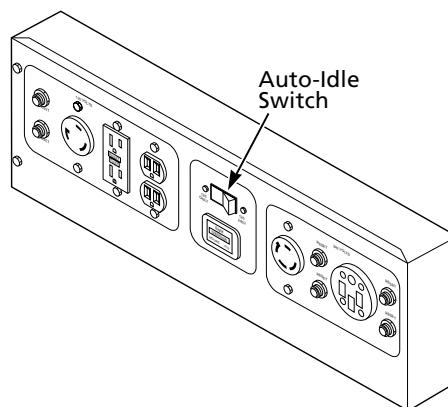

Figure 30 - Auto-Idle Switch Location on Control Panel
**NOTE:** The 250 Volt/50 Amp receptacle is not connected through the auto-idle circuit. The auto-idle switch must be turned off to get full power out of this receptacle (See Figure 30).